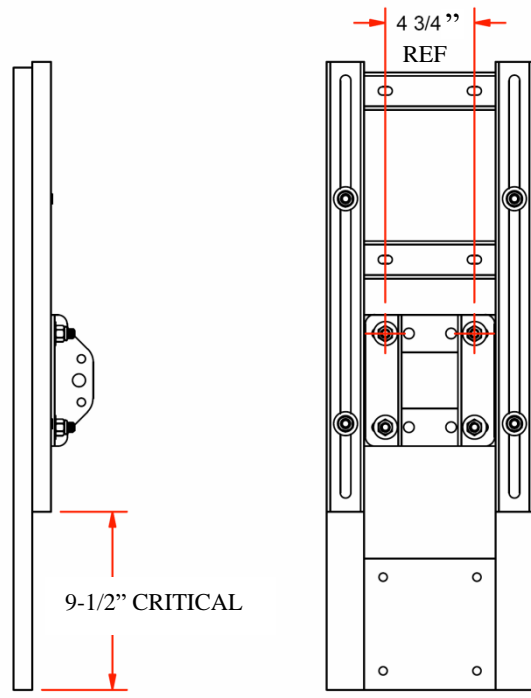

Figure 3
2. Slide the H-Frame mount on the H-Frame slot channel till the bottom of both H-Frames are at a distance of 9-1/2" (Figure 3) and tighten the carriage bolts down.